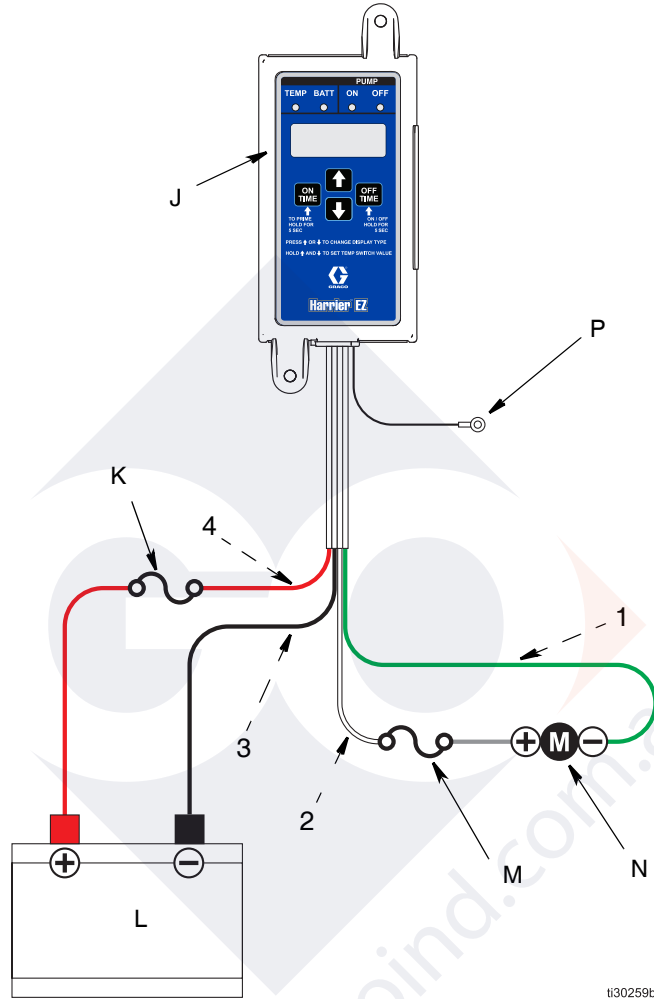

FIG. 2 Typical Installation and Wiring
FIG. 2 is an example of a Harrier EZ-JR chemical injection controller installation. Your installation may differ from what is shown here. The controller (J), with wiring, is supplied by Graco. All other components are supplied by the customer. Contact your Graco distributor for assistance in planning a system to suit your needs.